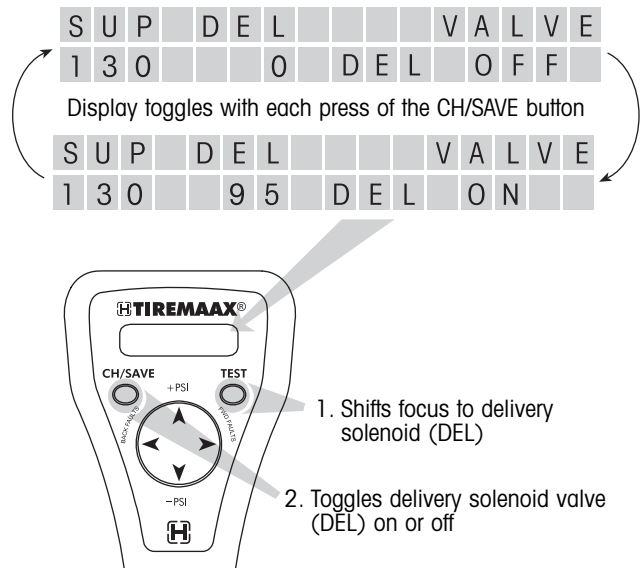

Figure 39. Testing the delivery solenoid valve (DEL) response
- To test the delivery solenoid valve response, press the TEST button (figure 39). The diagnostic focus shifts from the supply solenoid valve to the delivery solenoid valve.
Press the CH/SAVE button to toggle the delivery solenoid valve from off to on. Press the CH/SAVE button again to toggle the valve from on to off (figure 39).